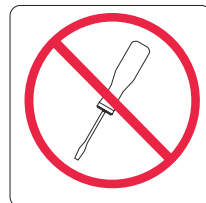

Figure 4. No user access label for the SAN Volume Controller
2. No user access label. See Figure 4.